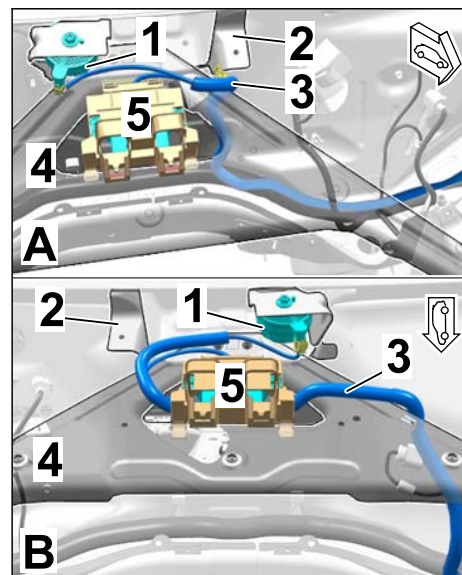

Figure 15
2.2.3 Secure the engine noise pulse sender, facing downwards, in the bulkhead holder (plenum panel) using an M6 hexagon nut (1 x) (⇒ *Figure 15*)